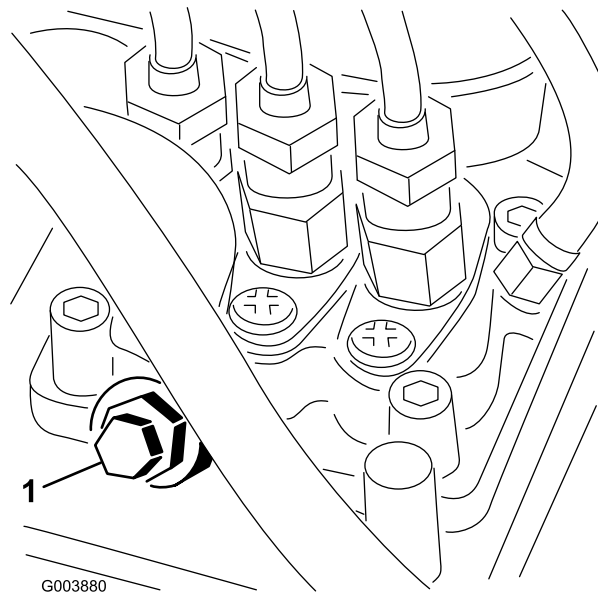

Figure 36
4. Open the air-bleed screw on the fuel-injection pump (Figure 36).